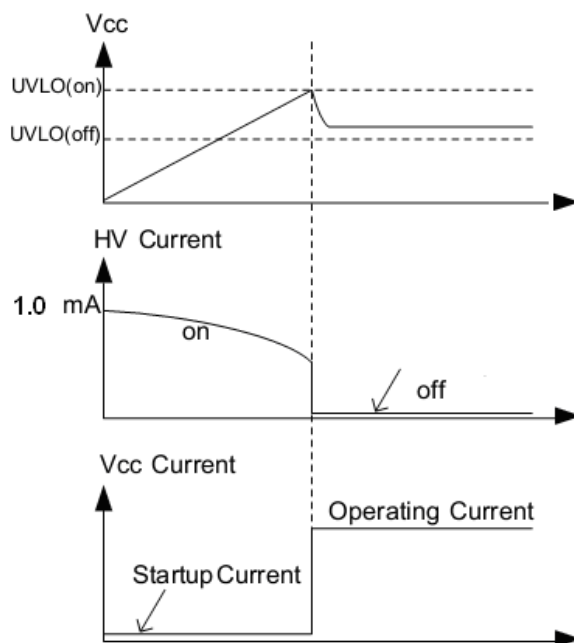

Fig. 1
***Latch PIN FUNCTION OPTION (See below Fig.1)**
GR8875 series implements a high-voltage startup circuit, during the startup; high-voltage current sources are turned on and provide the start-up current as well as charge the Vcc capacitor. When the Vcc voltage is higher than the UVLO (on) threshold, the high-voltage current source will be turned off. Its leakage current is very low (30uA), which only consumes little power. By using such configuration, the traditional startup resistor is not needed and power consumption will reduce. (Refer to Fig. 1).
respectively. This hysteresis shown in Fig.1 ensures that the start-up capacitor will be adequate to supply the chip during start-up.